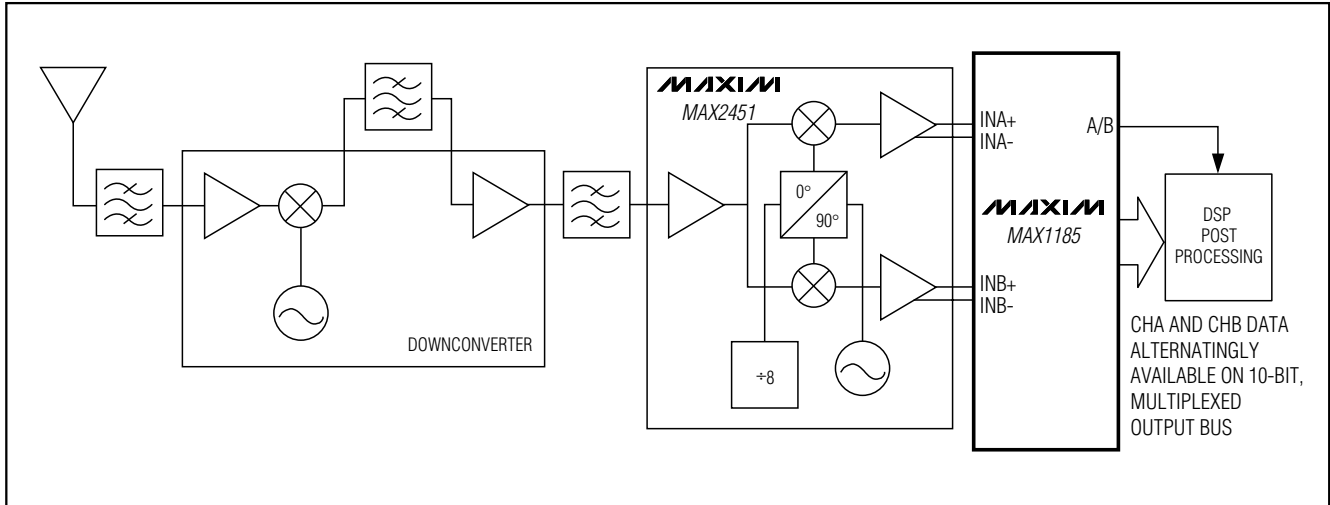

Figure 8. Typical QAM Application, Using the MAX1185
The most frequently used modulation technique for digital communications applications is probably the Quadrature Amplitude Modulation (QAM). Typically found in spread-spectrum based systems, a QAM signal represents a carrier frequency modulated in both amplitude and phase. At the transmitter, modulating the baseband signal with quadrature outputs, a local oscillator followed by subsequent up-conversion can generate the QAM signal. The result is an in-phase (I) and a quadrature (Q) carrier component, where the Q component is 90 degree phase-shifted with respect to the in-phase component. At the receiver, the QAM signal is divided down into its I and Q components, essentially representing the modulation process reversed. Figure 8 displays the demodulation process performed in the analog domain, using the dual matched +3.3V, 10-bit ADC MAX1185 and the MAX2451 quadrature demodulator to recover and digitize the I and Q baseband signals. Before being digitized by the MAX1185, the mixed down-signal components may be filtered by matched analog filters, such as Nyquist or Pulse-Shaping filters. These remove any unwanted images from the mixing process, thereby enhancing the overall signal-to-noise (SNR) performance and minimizing intersymbol interference.